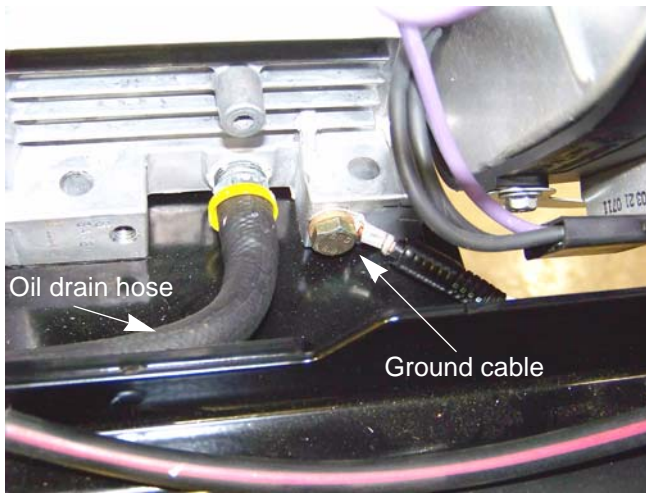

Figure 2.21
5. Disconnect the ground cable from the left side of the engine using a 1/2" wrench. See Figure 2.21.